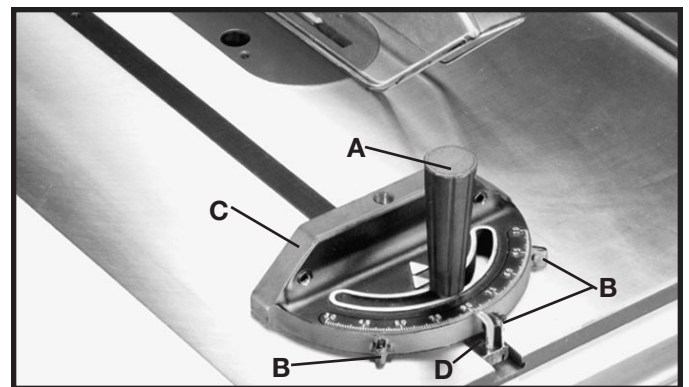

Fig. 48
The miter gage is equipped with adjustable index stops at 90 degrees and 45 degrees right and left. Adjustment to the index stops can be made by tightening or loosening the three adjusting screws (B) Fig. 48, with allen wrench supplied.
To rotate the miter gage, loosen lock knob (A) Fig. 48, flip the stop link (D) down and out of the way, and move the body of the miter gage (C), to the desired angle.
The miter gage body (C) can stop at 90 degrees and 45 degrees both right and left by flipping the stop link down and out of the way and moving the miter gage body (C) past the 90 and 45 degrees mark and flipping the stop link (D) back up so that the stop link (D) will be able to contact the adjusting screws (B) at the desired 90 or 45 degree angle. To rotate the miter gage body past these points, the stop link (D) Fig. 48, must be down and out of the way.